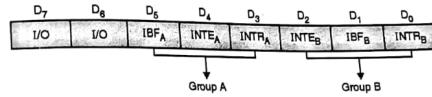

Fig. 9.11.6 : Port C definitions in mode 1 input mode
- The port C is used as status word and its definitions will be as shown in Fig. 9.11.6.